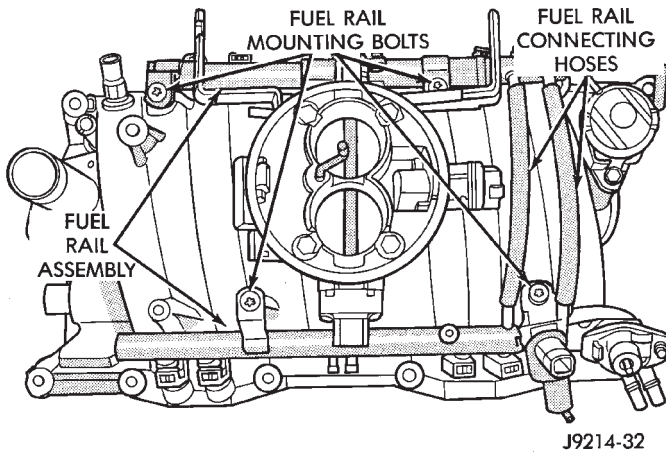

Fig. 12 Fuel Rail Mounting Bolts—Typical
- (10) Remove the remaining fuel rail mounting bolts (Fig. 12).
- (11) Gently rock and pull the **left** fuel rail until the fuel injectors just start to clear the intake manifold. Gently rock and pull the **right** fuel rail until the fuel injectors just start to clear the intake manifold. Repeat this procedure (left/right) until all fuel injectors have cleared the intake manifold.
- (12) Remove fuel rail (with injectors attached) from engine.